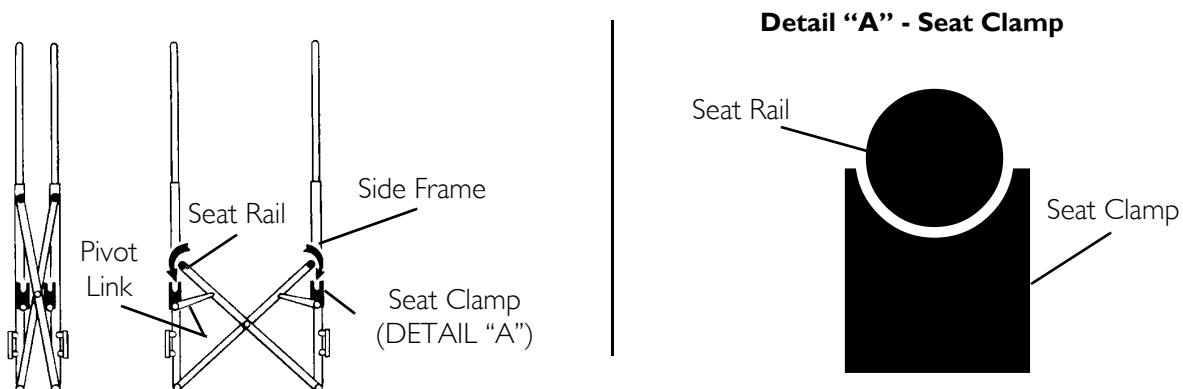

FIGURE 6.1 Folding/Unfolding the Wheelchair
NOTE: For this procedure, refer to FIGURE 6.1.
1. Open the two (2) side frames.
2. Press down on the seat rails with the palms of your hand until the two (2) seat rails sit flush in the seat clamps on the side frames (Detail "A" of FIGURE 6.1).